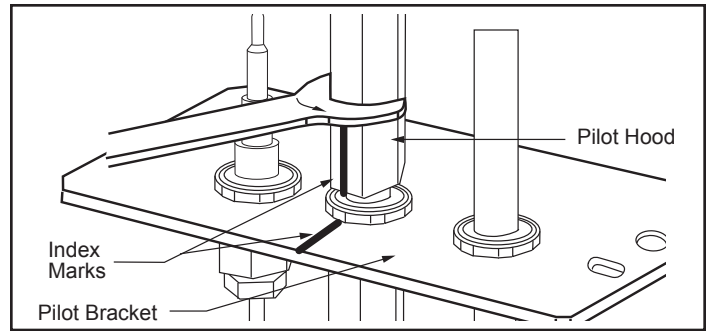

Figure 75 - Remove pilot hood. (Your pilot may have a different appearance.)
- Loosen pilot hood turning counterclockwise using a 7/16" wrench, Figure 75. **NOTE:** You may use penetrating oil to prevent pilot hood threads from seizing up.